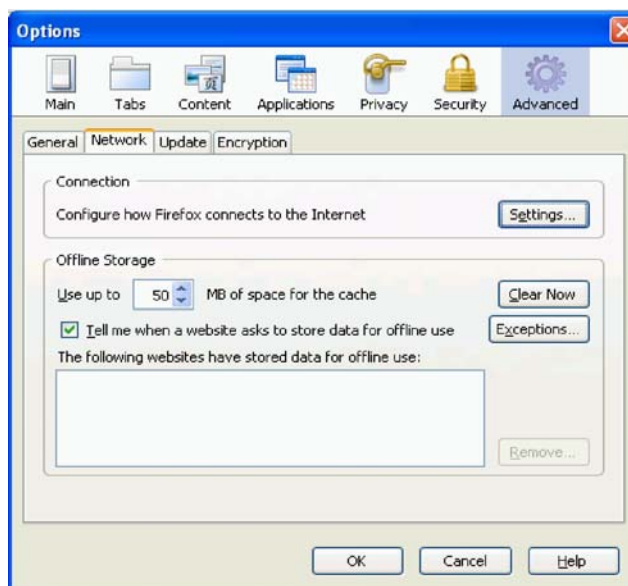

Figure 76: Options Window - Firefox
4. Select the **Network** tab as shown in Figure 76.